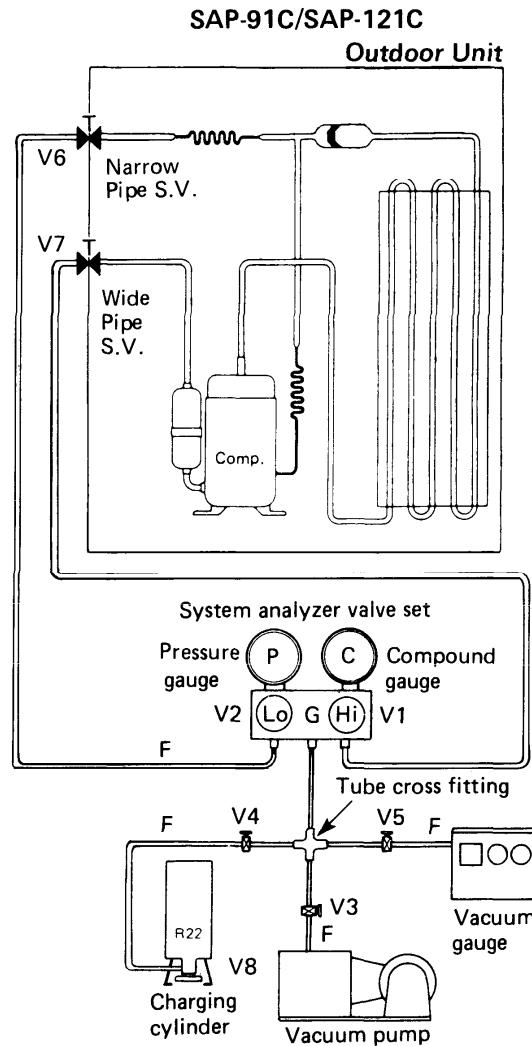

Fig. D-17
- 1) Connect instrument as in Fig. D-17.